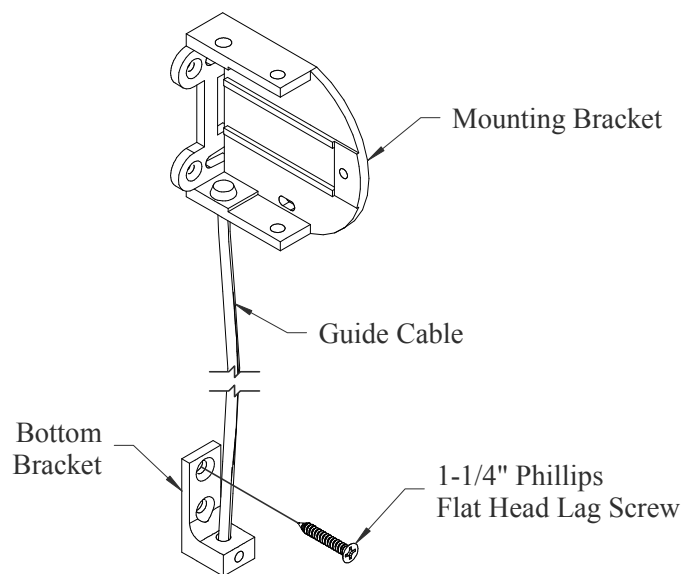

Fig. 3-1
- To mount the guide cables, leave the curtain unrolled at the set length. Mount the bottom brackets slightly below the weight tube and in line with the mounting brackets using (2) 1-1/4" phillips head lag screws, (1) per bracket (see Fig. 3-1)